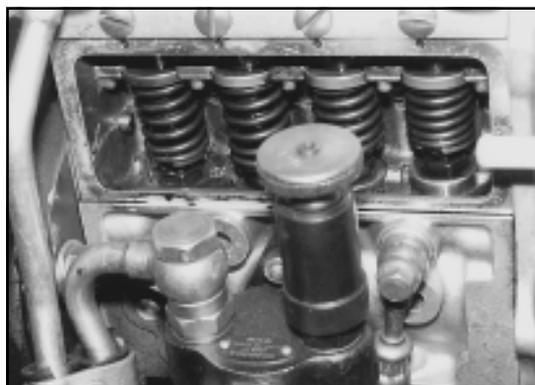

Fig.9-52
- Using the special spanner turn the fuel pump shaft clockwise till No.1 plunger (first plunger on the fly wheel end side) has started its upward stroke. Fig.9-52